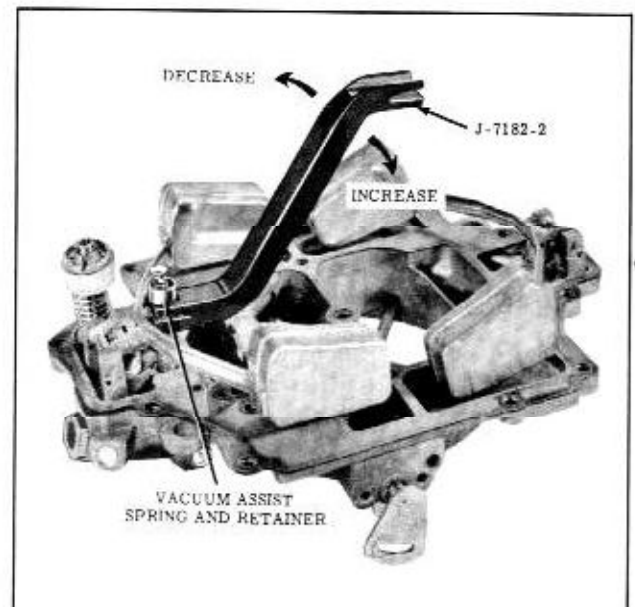

Fig. 8-122 Adjusting Vacuum Assist Spring
3. If an adjustment is necessary, bend the tang under the vacuum assist spring and retainer as indicated in Fig. 8-122.